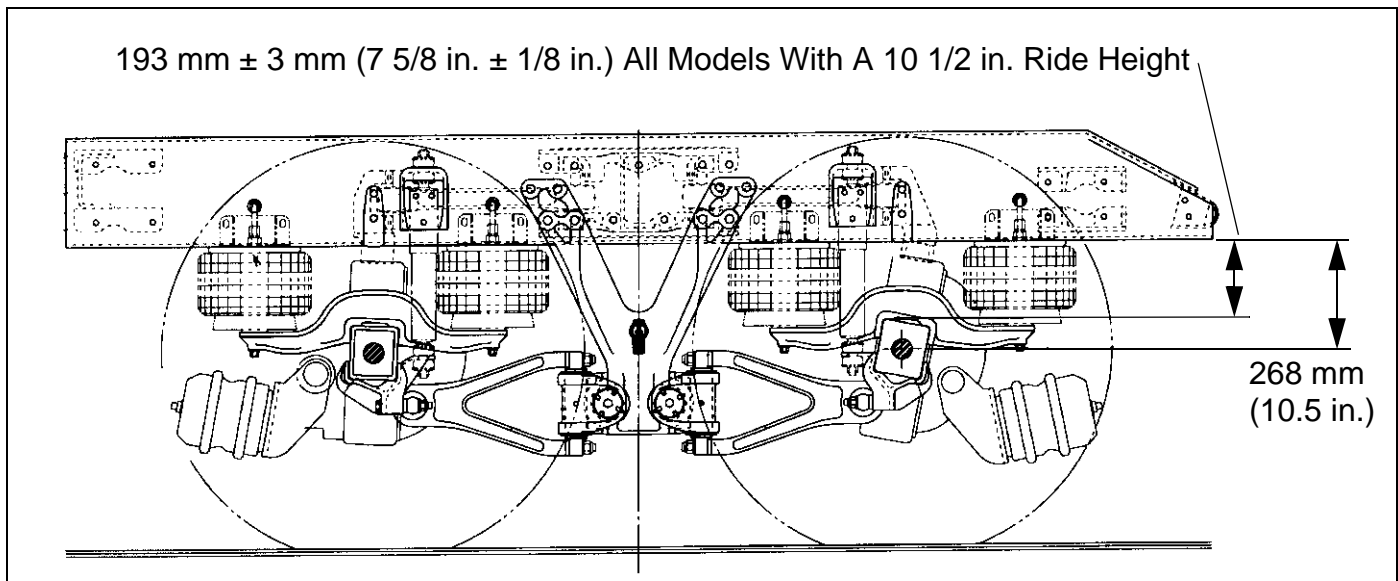

Figure 17-8 For 10 1/2 in. Ride Height
- All Models With a 10 1/2 in. Ride Height: 193 mm \pm 3 mm (7 5/8 in. \pm 1/8 in.). See Figure 17-8